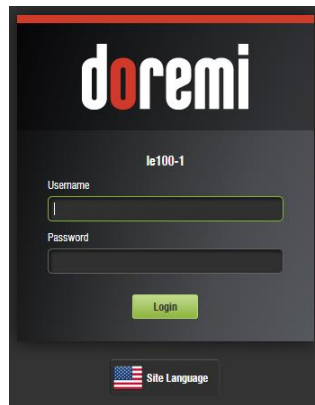

Figure 4: Login Window
- Type the username and password in the fields provided (Figure 4).